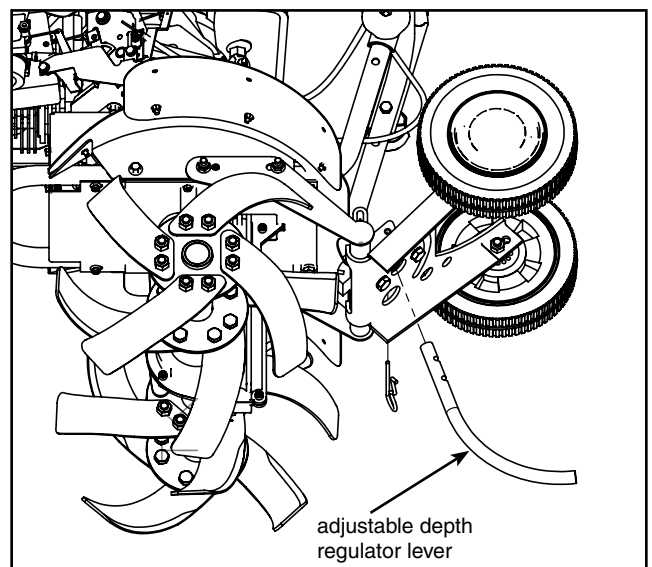

FIGURE 6-Depth Regulator Lever
1. Install the depth regulator lever through hole in bracket from the bottom up with curve to rear of unit and secure with 4 x 94 hair pin. **SEE FIGURE 6 ON PAGE 9.**
*Tilling depth is controlled by the height of the depth regulator lever. SEE FIGURE 6.*